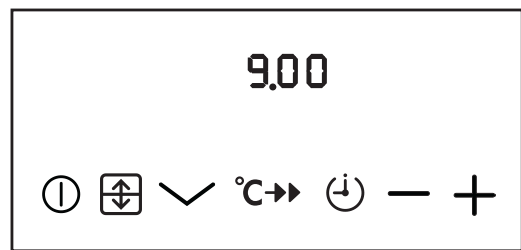

Fig.10.
- i) Ensure the electricity supply is switched ON and that the correct time is displayed, e.g. 9.00 a.m. as Fig. 10.